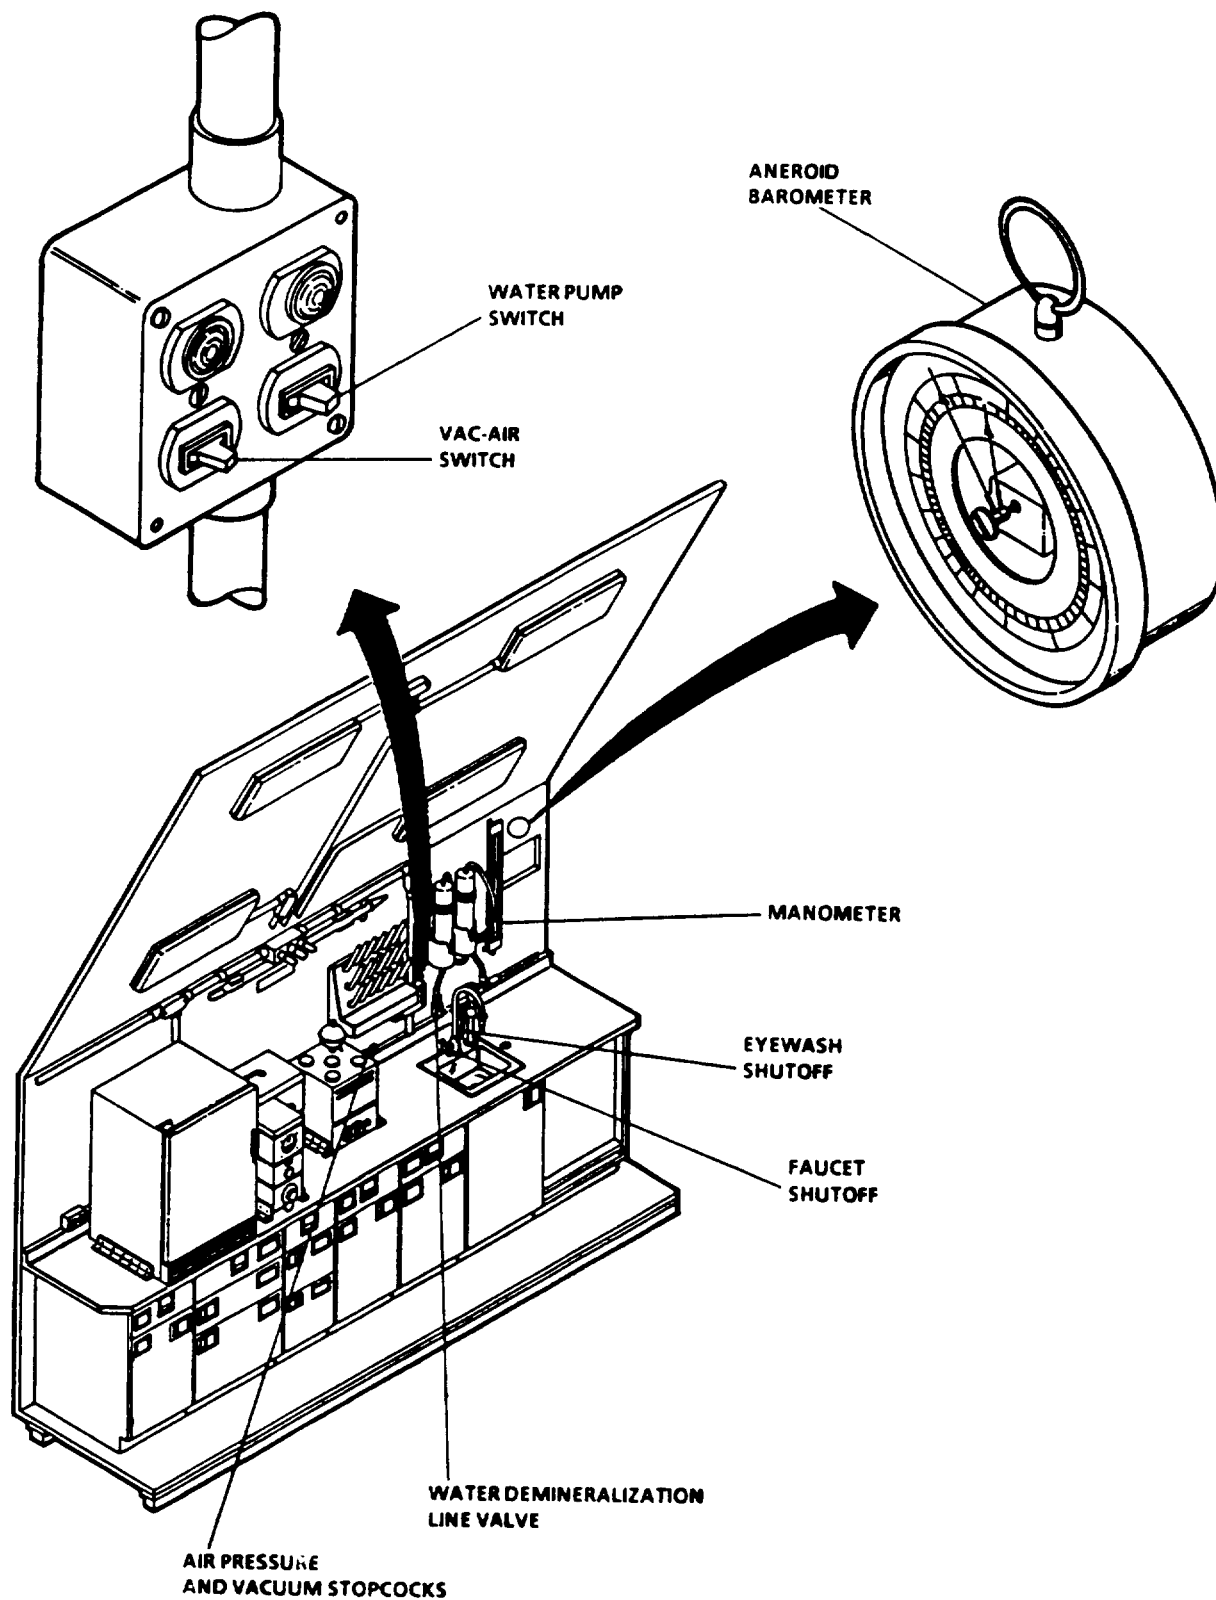

Figure 2-4. Interior - Roadside Wall and Countertop
c. Interior - Roadside Wall and Countertop. Figure 2-4 and Table 2-4 list the laboratory's controls and indicators located on the roadside of the laboratory's interior.